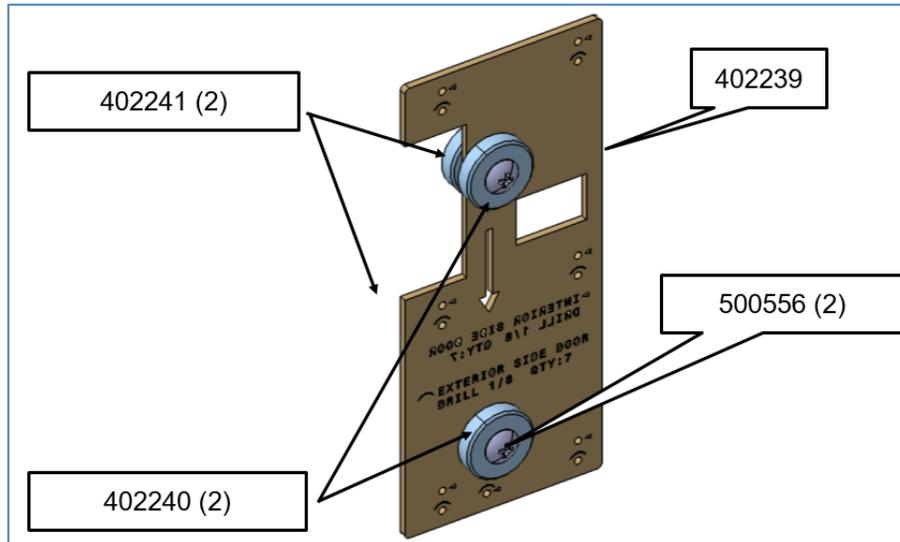

FIGURE 1
1. Assemble the drilling & cutting template as shown in Figure 1.